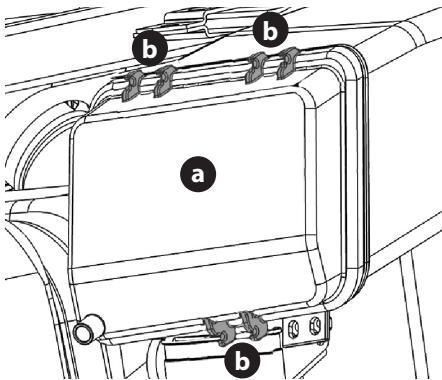

Figure 36
- Remove the air filter cover (a) from the three air filter cover holders (b) (Figure 36).